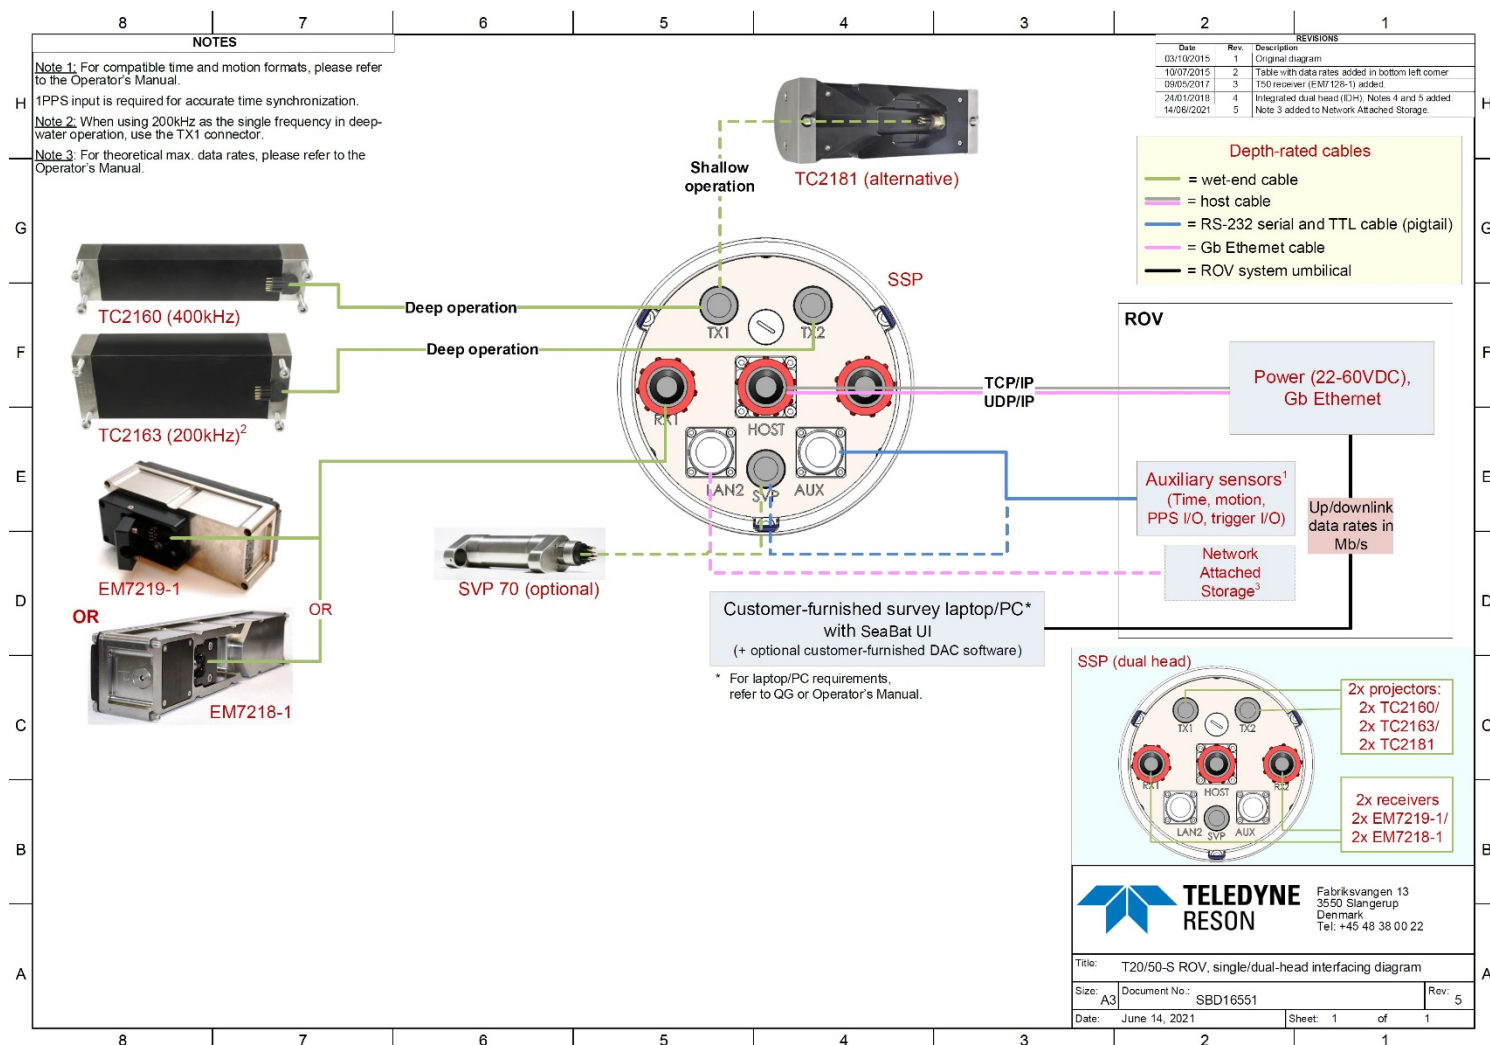

Figure 63: T20/50-S ROV, single/dual-head Interfacing Diagram
- *Figure 63: T20/50-S ROV, single/dual-head Interfacing Diagram*